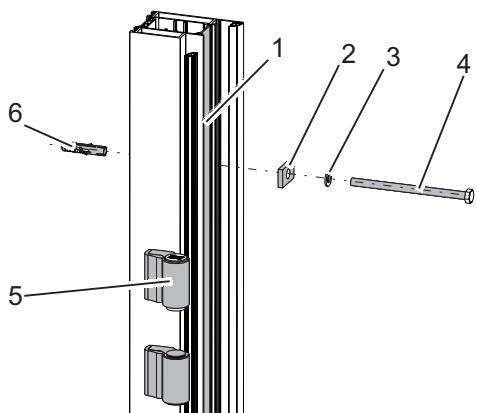
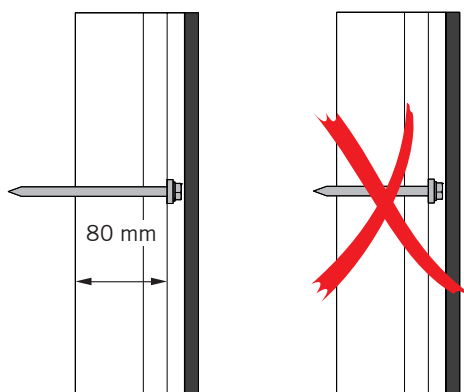

Fig. 6: Mounting the wall mounting profile
Fig. 7: Screw length
The boreholes for the wall mounting in single action doors must be drilled close to the door hinges (Fig. 6/5), if there are any.
2. Spread over the wall mounting profile, drill four centered boreholes through the plastic profile (Fig. 6/1) into the wall. Note the specifications of the manufacturer of the wall plugs.
3. Depending on the building fabric, use suitable wall plugs (Fig. 6/6) or similar.
4. Insert plates (Fig. 6/2).
5. Fasten the wall mounting profiles using suitable screws (Fig. 6/4 and Fig. 7) and suitable washers (Fig. 6/3).